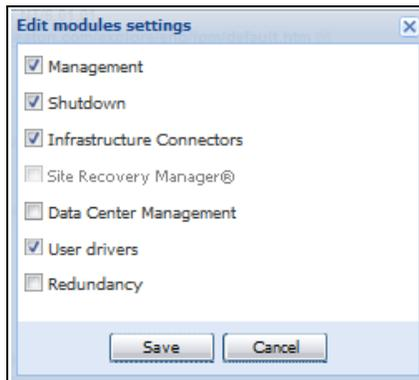

Figure 134. Edit Modules Settings - Infrastructure Connectors
2. Click **Edit modules settings** in the right panel. The Edit modules settings dialog box displays (see Figure 134).